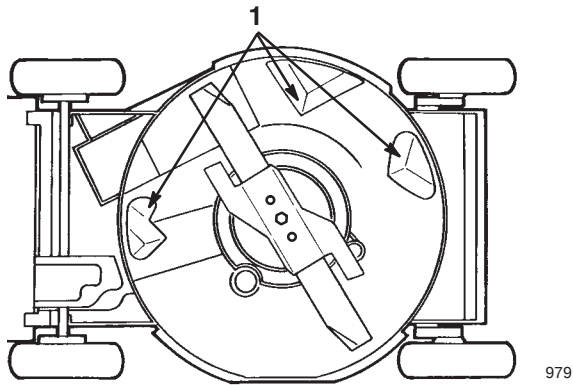

Figure 16
Keep the underside of the lawn mower housing clean. Be especially careful to keep the kickers free of debris (Fig. 16).
5. Tip the lawn mower onto its *left* side (Fig. 16).